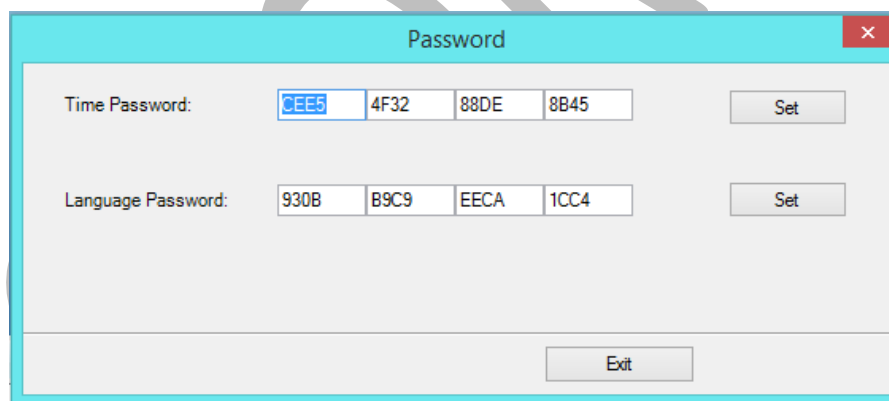

Fig 19: The Password Window
Step 2: Set values in the **Time Password** field as per the requirements (Refer to Fig 19).
Step 3: After feeding the passwords, click on the **Set** button in front of both the options (Refer to Fig 19).
Step 4: Click on the **Exit** button to close the **Password** window (Refer to Fig 19).
- Password Screen (Refer to Fig 19)